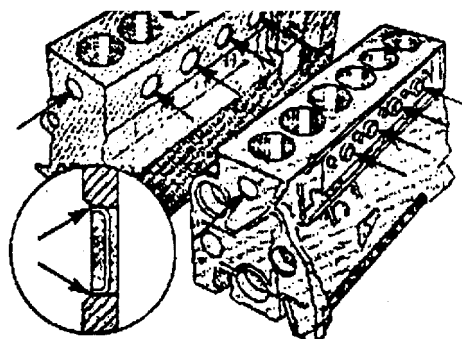

FIGURE 4-98. Install Coolant Passage Cup Plugs.
- n. Drive the coolant passage plugs in until the outer edge is flush with the countersink in the block. (FIGURE 4-98)